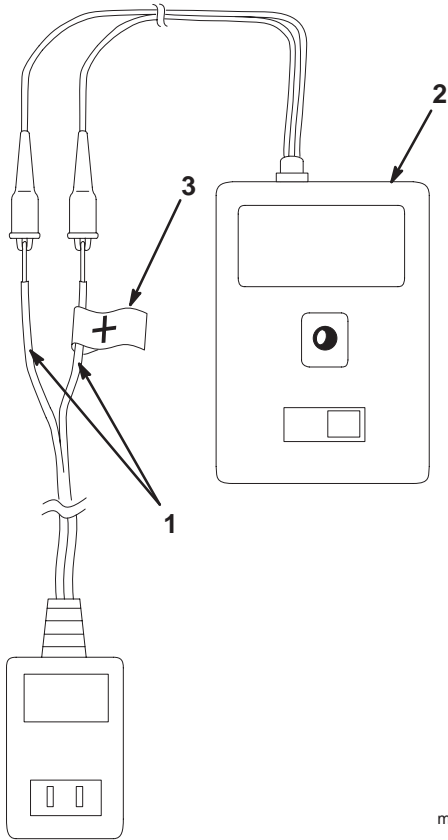

Figure 2
2. Split the wires apart about 1 inch (2.5 cm) as shown in Figure 2.
3. Strip about 3/16 inch (5 mm) of insulation off the end of both wires (Fig. 2).
5. Use a voltmeter to determine which of the wires is positive and label it (Fig. 2).